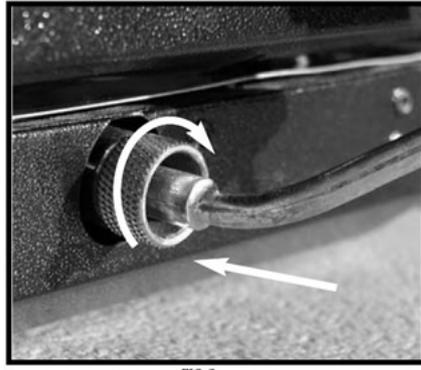

FIG. 2
4. Your stove is equipped with either a tube regulator assembly or a hose regulator assembly. Push regulator assembly firmly into stove. Tighten nut securely as shown in FIG 2.